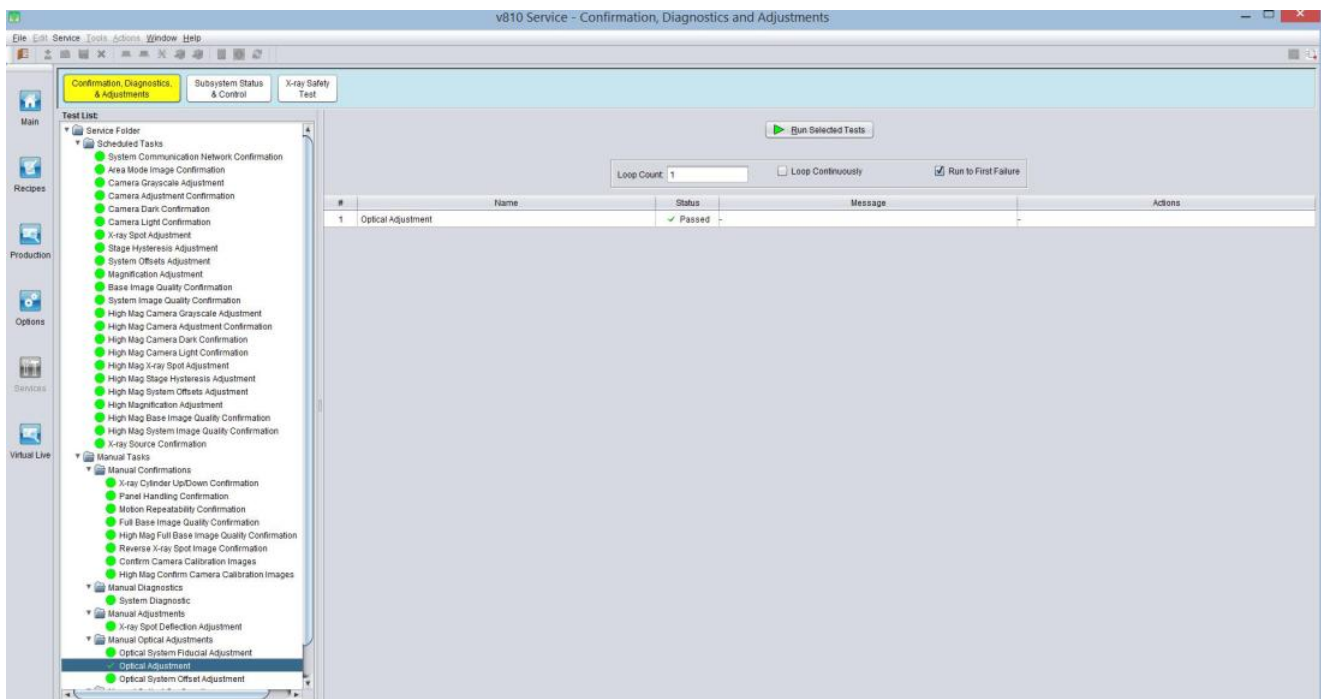

Figure 14 Optical Adjustment
15. Optical Adjustment result will be illustrate as Figure 14.